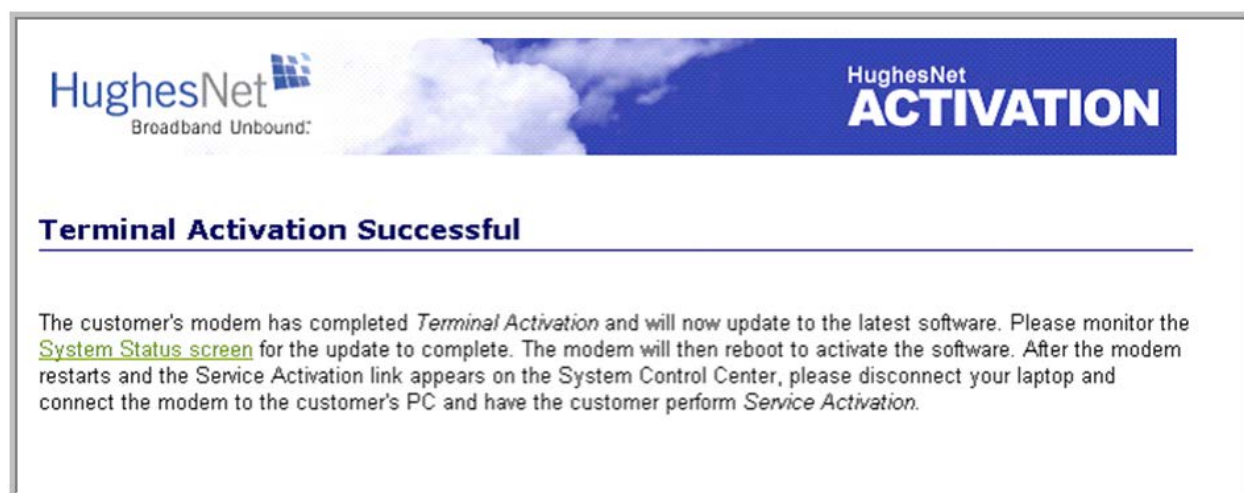

Figure 33: Successful activation screen
8. Click **Confirm**. The Terminal Activation Successful screen appears as shown in Figure 33.